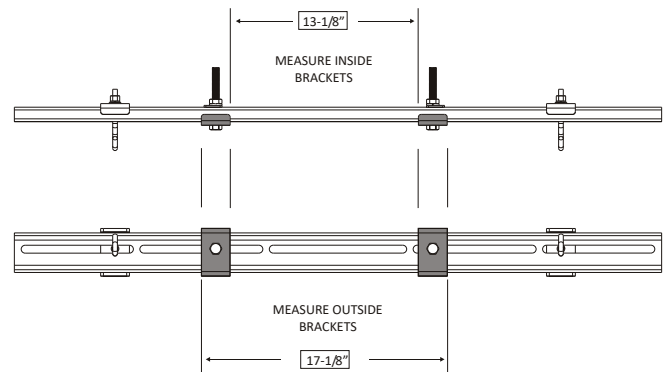

Figure 4-13
5. Mounting bolts will need to be positioned for lift base brackets. Position the mounting brackets $13\text{-}\frac{1}{8}$ " apart measuring from the inside of the mounting brackets or $17\text{-}\frac{1}{8}$ " apart if measuring from the outside of the mounting brackets. This will position the bolts $15\text{-}\frac{1}{8}$ " apart to fit into the lift base brackets. See Figure 4-13.